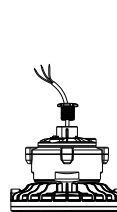

Figure 7
1. Unscrew the compression nut on the fixture (figure 7).